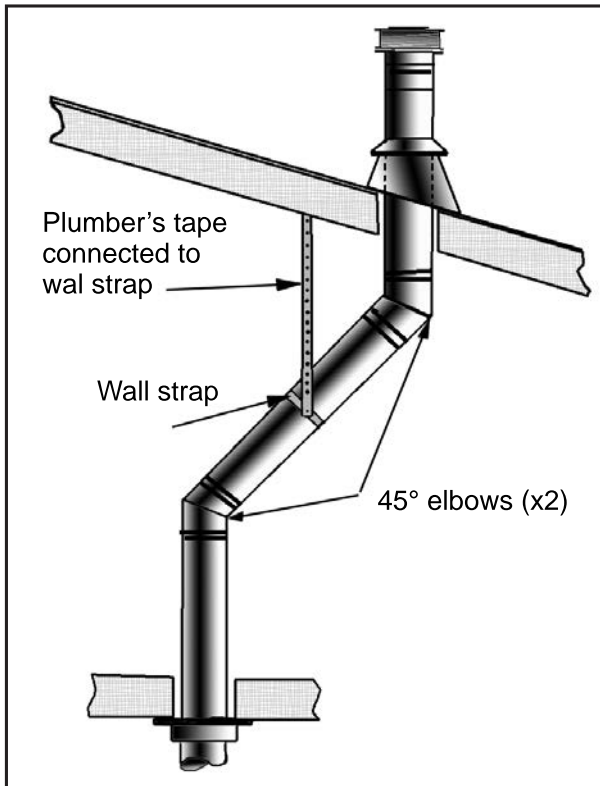
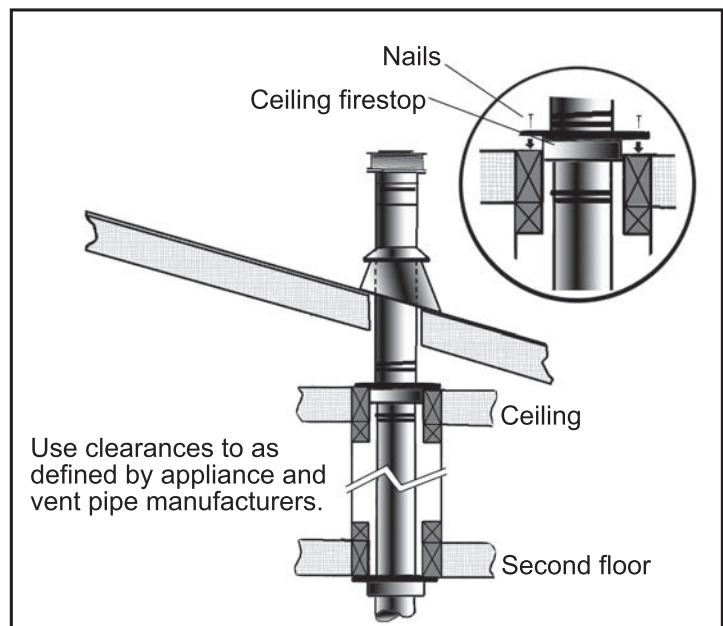

Figure 47: Use of Wall Straps.
Figure 48: Multi-Story Vent Pipe Installation
- (1) If an offset is necessary in the attic to avoid obstructions, it is important to support the vent pipe every **3' (914 mm)**, to avoid excessive stress on the elbows, and possible separation. Wall straps are available for this purpose (see Figure 47).
- (2) When ever possible, use 45° degree elbows instead of 90° degree elbows. The 45° degree elbow offers less restriction to the flow of flue gases and intake air.
- (3) For multi story installations; a ceiling firestop is required at the second floor, and any subsequent floors (see Figure 48). The opening should be framed to **10" (254 mm) x 10" (254 mm)** inside dimensions, in the same manner as shown in Figure 39.
- (4) Any occupied areas above the first floor, including closets and storage spaces, which the vertical vent passes through, must be enclosed. The enclosure may be framed and sheet-rocked with standard building materials. However consult the appliance manufactures installation instructions for the minimum allowable clearance between the outside of the vent pipe, and the combustible surfaces of the enclosure. Do not fill any required air spaces with insulation.